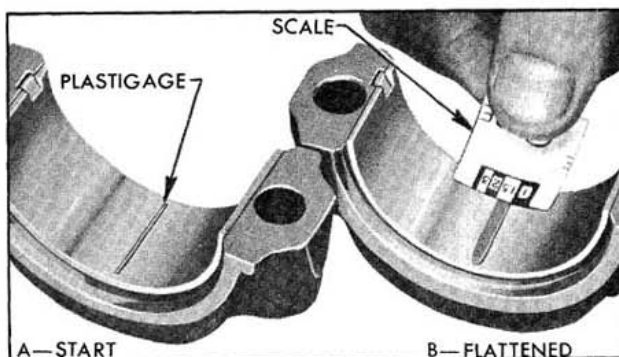

Fig. 3-26 Checking Bearing Clearance
2. Place a piece of Plastigage lengthwise along the bottom center of the lower bearing shell (Fig. 3-26, View A), then install cap with shell and tighten bolt nuts to 35 ft. lbs. torque.
5. Using the scale printed on the Plastigage envelope, measure the flattened Plastigage at its widest point. The number within the graduation which most closely corresponds to the width of Plastigage indicates the bearing clearance in thousandths of an inch. See Fig. 3-26, View B.